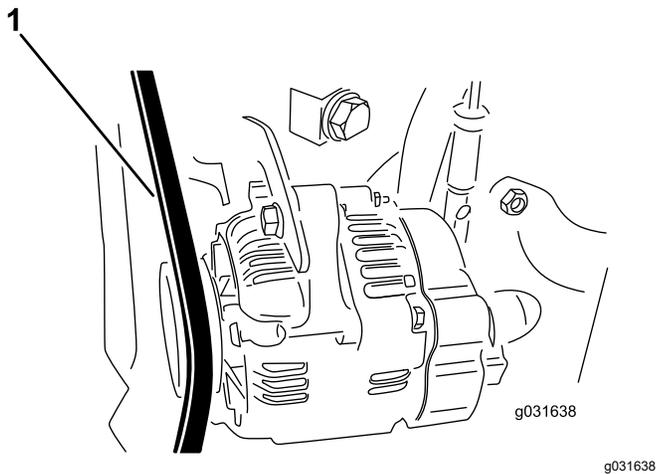

Figure 56
2. Apply 30 N (22 in-lb) of force to the alternator belt, midway between the pulleys (Figure 56).